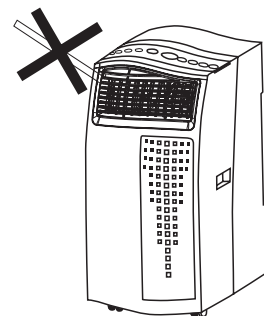

FIG. 2
- Do not cover or obstruct the appliance inlet or outlet grilles (Figure 2).